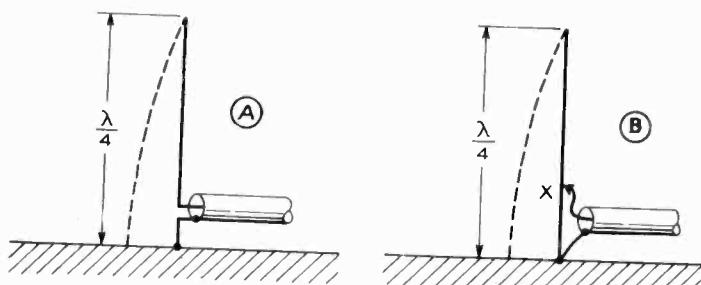
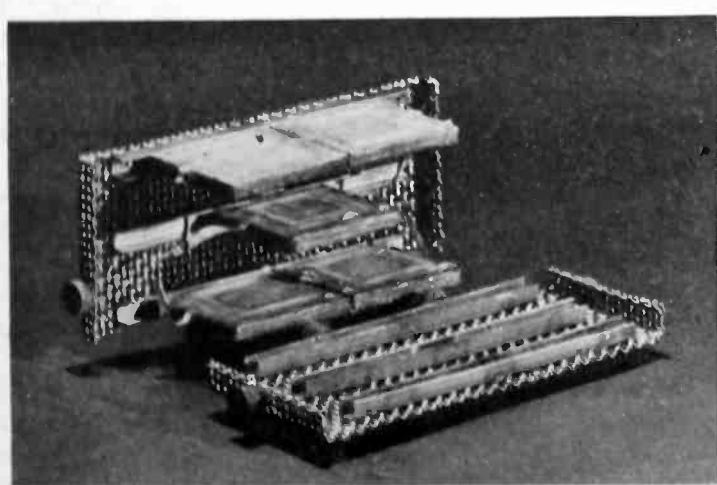
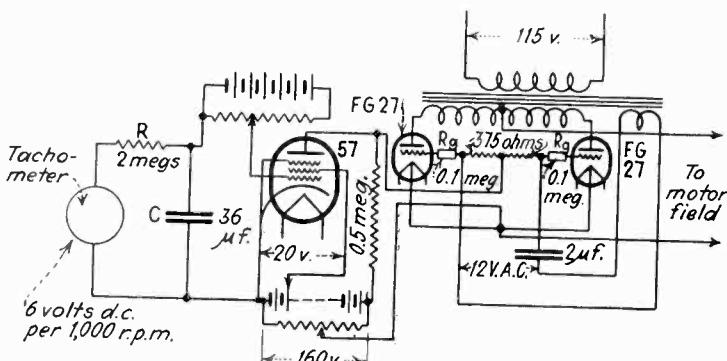

Fig. 2. A. Quarter-wave antenna terminated at ground plane. B. Terminated between ground and point X, increasing termination resistance
Fig. 3. Arrangement of the bimorph crystal elements within the case
Fig. 1—Circuit diagram of the speed regulator. The tachometer voltage controls the field current through grid-controlled rectifiers
Fig. 1. Transmission lines and antenna structures. A, B, and C are 70 ohm type concentric transmission lines. D is a half-wave rod matched to the line by means of a parallel-wire transformer section, while E is a quarter-wave rod coupled directly to a concentric feeder
Fig. 2-A illustrates an antenna one-quarter of an electrical wavelength long, located perpendicular to a conducting ground. The electrical properties of antennas of this type are investigated theoretically in standard texts, wherein it is assumed that the antenna current varies sinusoidally in magnitude along the antenna, as is indicated by dotted curves in the accompanying figures. The analysis is complicated but the conclusion is quite simple. The impedance of such an antenna, measured between its lower end and ground, is a pure resistance of approximately 35 ohms.
The antenna of Fig. 2-A may be connected to the end of a line as shown. If the characteristic impedance of the line is also approximately 35 ohms, the line will be properly terminated. This case demands the use of a concentric line because a two-wire line cannot be designed with such a low Z_0 .
A method of using lines of various impedances is illustrated in Fig. 2-B. The line is terminated in shunt with a portion of the antenna and the load on the line can be
The methods illustrated in Figs. 2-A and 2-B can be used in installations wherever something approximating a conducting ground plane is present. In many cases there is no effective ground plane, and it is necessary to use a half-wave antenna as illustrated in Figs. 3-A and 3-B. A half-wave antenna may be regarded simply as two quarter-wave antennas in series, each supplying a ground for the other. The series resistance at the center is therefore 2×35 , or 70 ohms. The connection shown in Fig. 3-A requires a concentric line with a Z_0 of 70 ohms. In Fig. 3-B, the shunt connection is used and lines of various Z_0 may be used by making the connections x at the proper distance either side of the center.
The simple antennas just discussed do not produce any signal in the direction of their axes. Hence, if one desires an installation to operate equally well in all horizontal directions, it is necessary to use a vertical antenna. The vertical antennas of Figs. 3-A and 3-B will work very well if the lines driving them are extended away, approximately perpendicular to the antenna, for some distance before they are brought down. This would involve a difficult mechanical problem in the case of an antenna on top of a flagpole. It appears desirable,
One method of driving half-wave antennas at the end has been used for many years in amateur and commercial installations, and is illustrated in Fig. 3-C. The end of the antenna is simply connected to one side of a two-wire line and the other side of the line is left open. In the usual case, the two-wire line leading down to the equipment has dimensions giving it a Z_0 of the order of 500 ohms. At point A, therefore, the line is loaded with much too high a resistance for proper termination and standing waves exist on the line as shown in the figure. Now suppose the line were cut at B and the impedance looking toward the antenna were measured. Since the currents are large at this point, it would be expected that the impedance would be low. Actually it is probably less than 100 ohms and much too low to properly terminate the line below B. Hence the standing waves continue all the way down the line to the equipment. The line in Fig. 3-C is not a true transmission line and is more properly called a feeder.
The concentric type of feeder illustrated in Fig. 3-D is a form that can easily be made self-supporting and has been used because of its mechanical simplicity. Such feeders have, however, some serious limitations. The presence of standing waves means that a relatively high voltage exists across the line conductors every half wavelength. If the line is very long, a large part of the energy may be consumed by dielectric losses. Also, if the line is required to transmit much power the diameter must be large to prevent flashover at the high voltage points.
A number of attempts have been made to find a satisfactory method of driving an antenna from the lower end with a true transmission line, and still retain a very simple mechanical structure at the top. One form is shown in the photograph of Fig. 1-E, which is supposed to operate the same as the antenna of Fig. 2-A. The outer line conductor is a $2\frac{1}{2}$ -inch steel conduit and the inner conductor a $1\frac{1}{2}$ -inch duralumin tube. The inner conductor extends through an insulator at the top for a
Fig. 3. A. 70-ohm half-wave antenna terminated at center. B. Terminated by parallel feeders. Both A and B types require feeders at right-angles to antenna. C. "Zeppelin" feeder system, using parallel feeders. D. Zeppelin, using concentric feeder system
quarter wavelength to form the antenna. The three guy wires are intended to serve as the required ground plane. While this form of antenna is useful in some low power applications where the short antenna is desirable, actually the ground plane is so ineffective that large standing waves exist on the line. Electrically, it is little improvement over the half-wave type of Fig. 3-D.
An actual installation for 30.1 megacycles is shown in the photograph of Fig. 1-D. This antenna is on a 100-foot flagpole, and is 600 feet above the street. The 70-ohm concentric line is $\frac{3}{4}$ inch in diameter, and is run up inside of the flagpole in order not to interfere with flag sheaves which are mounted on a swivel just below the antenna. The outer conductor of the line and the antenna rod are grounded to the pole. The inner line conductor is brought through a tube and insulator to the small wire forming one side of the transformer section. This installation has withstood high winds and is entirely satisfactory mechanically. It is also a very efficient radiator. The $\frac{3}{4}$ inch line used is shown in Fig. 1-A. This size line will, when properly terminated, handle several kilowatts and the loss at 30 megacycles is only about 2db per thousand feet.
Two other types of line are also shown in Fig. 1. The $\frac{3}{8}$ inch size (1-B) is suitable for receivers, or transmitters up to 100 watts, and has a loss at 30 megacycles of about 8 db per thousand feet. Both of these lines are insulated with low-loss ceramic bead spacers which are held in place by deforming the inner conductor slightly either side of each bead. At 1-C is shown a piece of W.E. No. 700 cable. This type is rubber insulated and, although designed for use in the broadcast band, has been found useful at ultra high frequencies when very short lengths are required. It has a loss at 30 megacycles of about 25 db per 1000 feet. All three have a Z_0 of about 70 ohms.
Fig. 1. (A) The combination of a bi-directional response with a non-directional one to produce a uni-directional resultant. (B) Polar response curve of the microphone described in this article, showing the actual result obtained from the principle shown in (A)
The response of a bi-directional microphone is illustrated at B in Fig. 1-A and the response of a non-directional microphone is illustrated at N in the same figure. For a given sound wave impulse the polarity of a bi-directional microphone depends on which side of the microphone is facing the sound wave, while the polarity of a non-directional microphone is independent of direction. Thus it can be seen that a bi-directional and a non-directional microphone may be combined to have the directional characteristics shown at U in Fig. 1-A. For sound waves arriving from a direction normal to the front of the combination microphone the two outputs add, and for sound waves from the back the two outputs cancel.
A recently announced uni-directional microphone³ embodies a novel combination of small pressure-operated crystal sound cells to obtain the results illustrated in Fig. 1-A. The microphone is so arranged that the bi-directional section may be switched off for non-directional use without disturbing the remainder of the circuit.
Switch *SW* in the amplifier is provided to short circuit the bi-directional output when the microphone is to be used for non-directional pickup. Thus the UD-3 may at the will of the operator, be used as a uni-directional microphone or as a completely non-directional microphone. Curve *A* in Fig. 1-B is a polar response curve of the non-directional section and curve *B* is the uni-directional response. When used with a properly designed amplifier the response is substantially flat up to 10,000 cycles over the whole useful pickup field. In addition to its uni-directional property, the wide pickup angle of the UD-3 is a marked advantage over the restricted field of a bi-directional microphone.
In order that various lengths of cable may be used without altering the balance between outputs of the two sections the bi-directional section is made up of two pairs of cells in series parallel and thus has the same impedance as the single cell. The two pairs are placed one above the other with the non-directional cell in between. They are clamped in light metal channels, spot welded to pieces of metal screen which form a supporting frame. The cell assembly, with one side removed, is shown in Fig. 3. In the complete microphone the cell assembly is mounted in the outer case on small pads of sponge rubber.
A circuit diagram of the regulator is shown in Fig. 1. A small magneto tachometer is directly coupled to the shaft of the shunt motor and the direct current voltage from this tachometer is fed into the grid circuit of a type 57 amplifier tube. The output of the amplifier tube is put into the grid circuit of two gaseous grid-controlled rectifier tubes, connected for full wave rectification. The rectifier tubes are each supplied with a plate voltage of 500 volts, 60 cycle a.c., and the grids are each supplied with 30 volts, 60 cycle a.c., the grid voltage lagging the plate voltage by 120° . The output of the rectifier is used to supply the total field current for the shunt motor. Lag of the grid voltage behind plate voltage is obtained by means of a center-tapped resistance in series with a condenser, as shown in the circuit diagram.
In any automatic regulator some provision must be made to prevent hunting. In this case a resistance-capacity time delay is used. The tachometer is connected to a resistance and a condenser in series, and the voltage across the condenser is then connected in the grid circuit of the amplifier, as shown in the circuit diagram, Fig. 1. With this arrangement any change in voltage of the tachometer cannot appear immediately in the grid circuit of the amplifier.
The schematic diagram in Figure 1 is self-explanatory. Advantage is taken of the beat note of approximately 1,000 cps. supplied by a General Radio Type 581-B frequency deviation meter used to monitor continuously the transmitter carrier frequency, which is coupled to one of the buffer stages preceding the modulated R.F. amplifier. Cutting in of the tone-beat has no effect whatever on the calibration of the frequency monitor. Any good frequency deviation meter could no doubt also be used to supply the beat-note with equally satisfactory results.
Fig. 1. Complete diagram of the signal system. The station frequency deviation meter (shown in dotted lines) supplies the 1000 cycle tone for the signal. Western Union time impulses are used